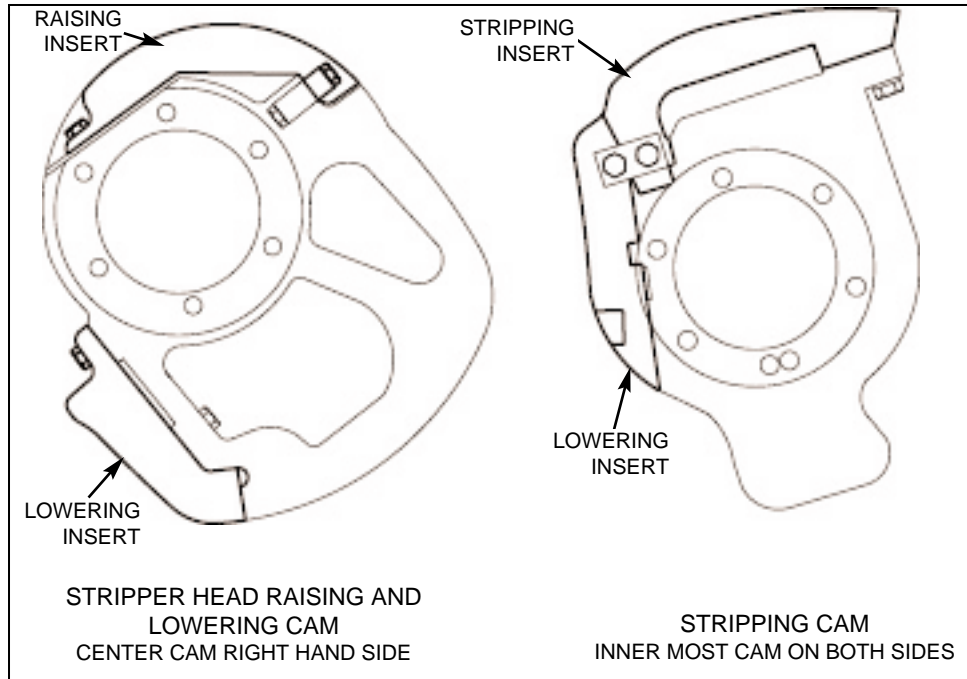

Figure 4.42 REMOVING STRIPPING CAM INSERTS.
4.3.4 Remove the stripping cam insert from each side of the machine. This concrete unit is run without any stripping cam insert (see figure 4.42).